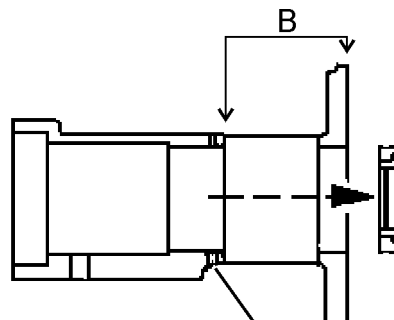
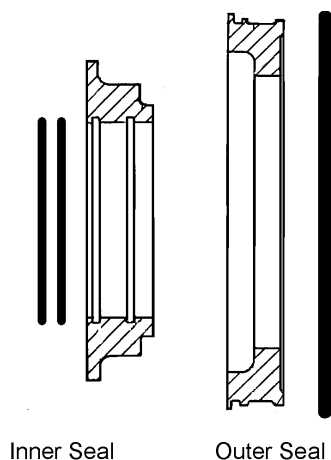
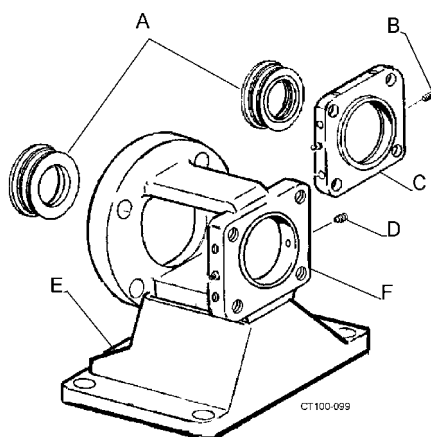

Figure 28 - Remove Set Screws
Figure 29 - Seal Configuration
Figure 30 - Outer Seal Assemblies
10. **For Style C;** Remove stand/housing assembly, then remove end cap. (Figure 30, item C on page 41).
1. Using an 1/8" hex wrench, loosen set screws (Figure 28, item A).
2. Remove the impeller end of the bearing housing (Figure 28, item B).
3. Remove the outer seal ring assemblies (the inner seal ring and O-rings). (Figure 28) and Figure 29.
NOTE: Figure 29 shows seal position at motor end. Seals at pump end face inward. Make sure to tighten set screws when installing outer seal assemblies. (Figure 30).